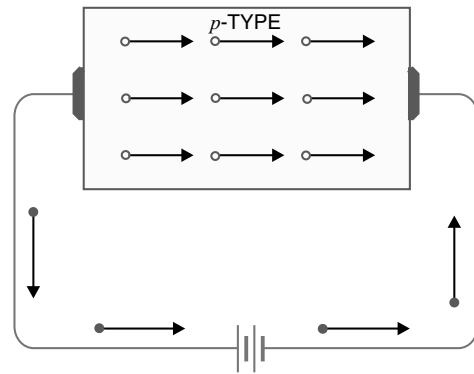

Fig. 3.16
***p*-type conductivity.** The current conduction in *p*-type semiconductor is predominantly by holes *i.e.* positive charges and is called *p-type* or *hole-type conductivity*. To understand *p*-type conductivity, refer to Fig. 3.16. When p.d. is applied to the *p*-type semiconductor, the holes (donated by the impurity) are shifted from one co-valent bond to another. As the holes are positively charged, therefore, they are directed towards the negative terminal, constituting what is known as hole current. It may be noted that in *p*-type conductivity, the valence electrons move from one co-valent bond to another unlike the *n*-type where current conduction is by free electrons.